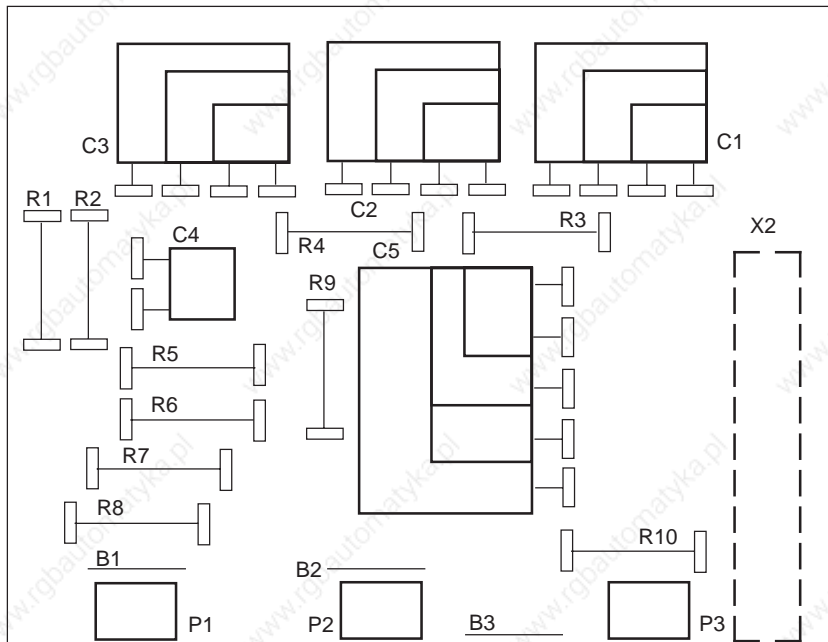

Fig. 21: Module labels: MOD 1, MOD 2 for TDM 1 drive module
- Fig. 21 Module labels : MOD 1, MOD 2 for TDM 1 drive module